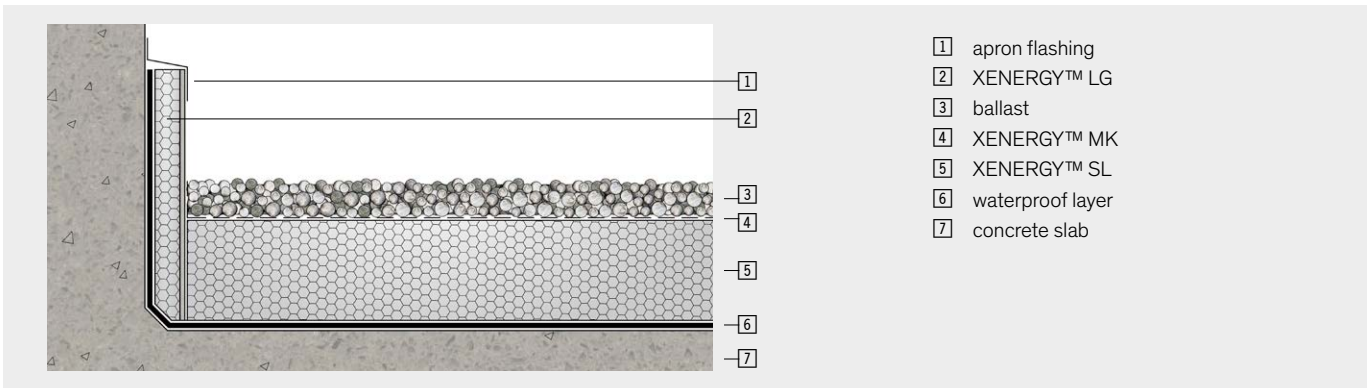

Figure 3: Lightweight inverted roof - detail at upstand
Upstands at parapets and abutments should be protected by either XENERGY™ LG boards set vertically or XENERGY™ SL boards set vertically and covered with an apron flashing (**Figure 3**). Extending the insulation in this way affords a consistent level of protection and helps to avoid thermal bridging. Apron flashings should be carried to at least 150mm above the surface of the ballast.
- 4 Insulate upstands with XENERGY™ LG boards (**Figure 3**).